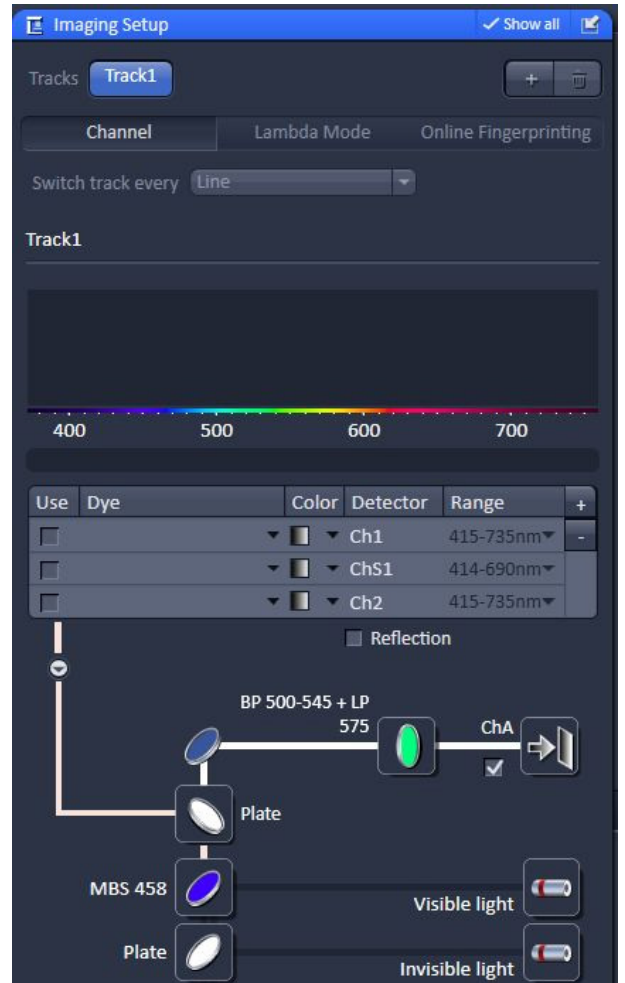

Fig. 118 Imaging Setup tool: Airyscan detector activation
- To activate the Airyscan detector, tick the **ChA** checkbox in the beam path (Fig. 118).